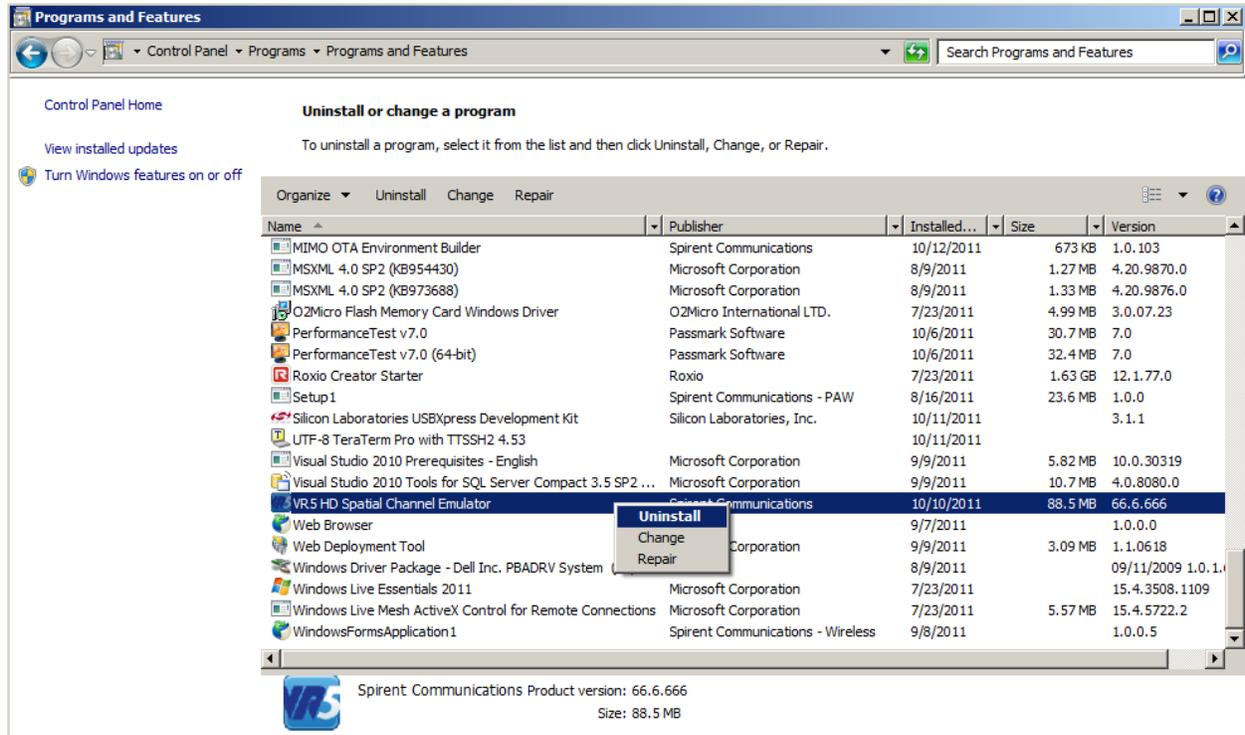

Figure 2-3: Uninstalling the Previous VR5 Software
4. Right-click **VR5 Spatial Channel Emulator** and click **Uninstall** from the menu, as shown in Figure 2-3.